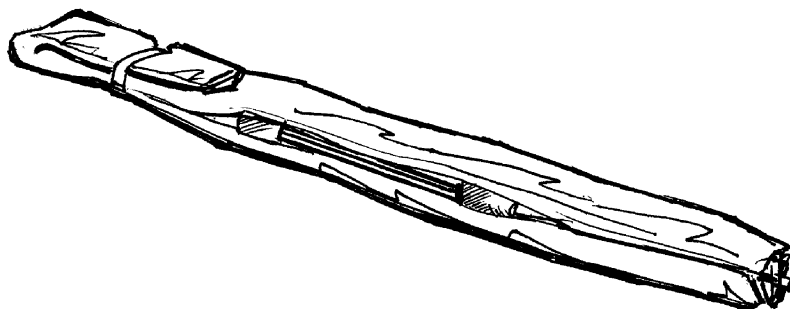

Fig.47
4.2.3. Place the leading edge of the sail over the other one and bend the sail to the nose (Fig.47). Attach it by a tighten tape in the direction the mylar wants to fold.